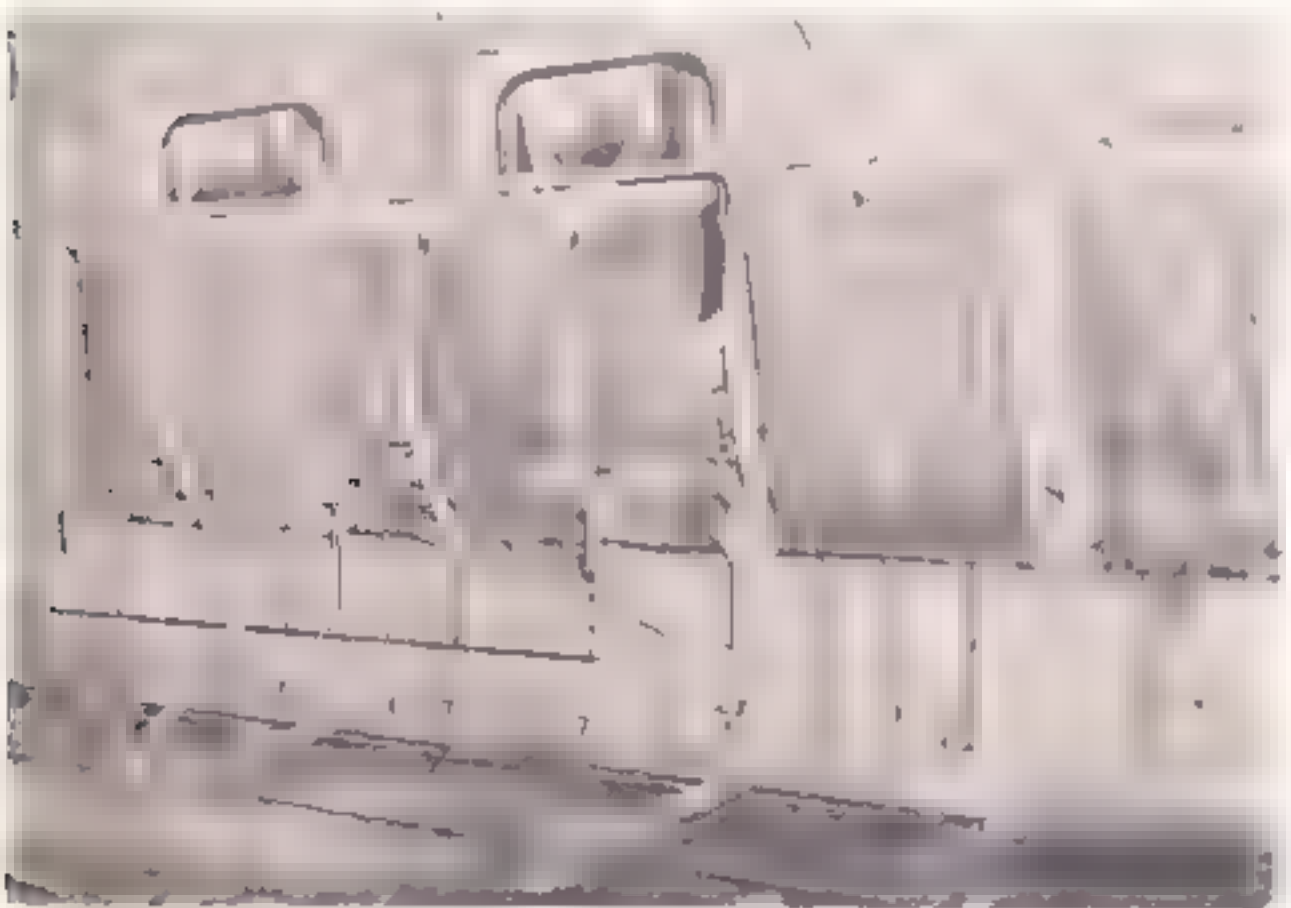

Figure 4-12. Twelve-place troop seats (folded position)
(2) Fold each support leg (19) parallel to seat front support tube (17) of each troop seat.
(3) Lift each troop seat up against cabin wall and fasten straps, located under troop seat, to seat back support tube (5) of each troop seat. (See figure 4-12.)